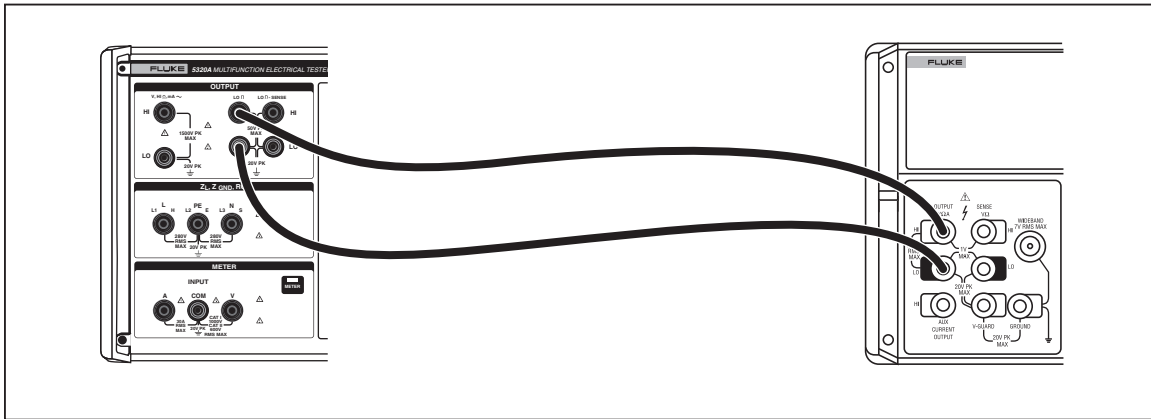

Figure 3-9. Low Resistance Meter Calibration Connections
1. Connect the multifunction calibrator to the Calibrator's OUTPUT LO Ω HI and LO terminals as shown in Figure 3-9.